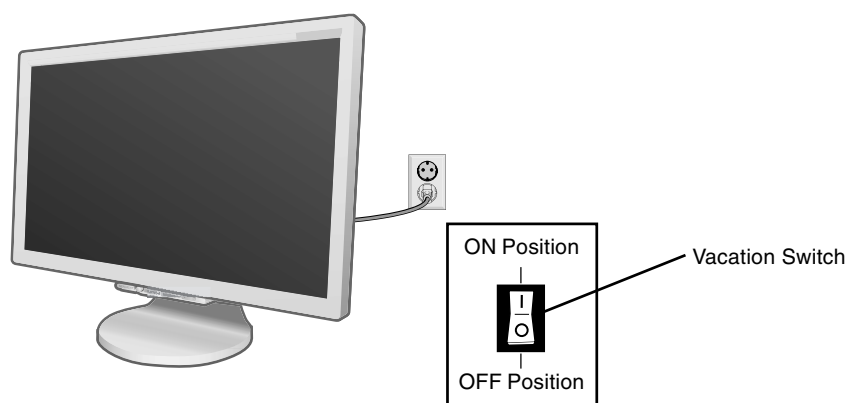

Figure D.1
10. Connect the power cord to the power outlet (**Figure D.1**).
11. The vacation switch on the back side of the monitor must be turned on (**Figure D.1**). Turn on the monitor with the front power button and the computer.